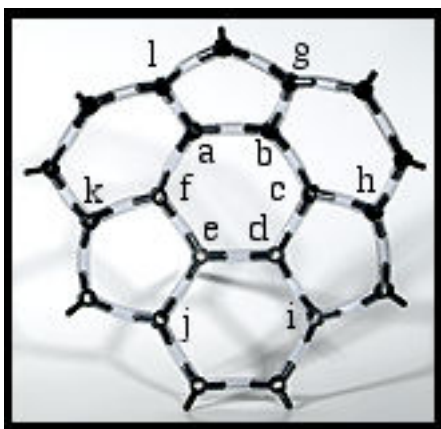

Fig. 3 Model with cup shape
3. Connect atom g to atom h using two more atoms to form a hexagon. Repeat with atoms i and j and then k and l. The model should now have a slight cup shape (Fig. 3).